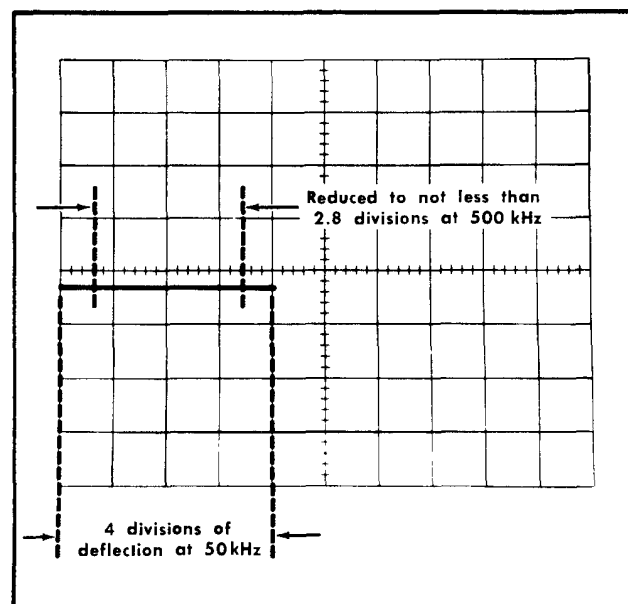

Fig. 5-19. Typical CRT display when checking external horizontal frequency response.
- d. Without changing the output amplitude, increase the output frequency of the constant-amplitude generator until the display is reduced to 2.8 divisions (−3 dB point; see Fig. 5-19).